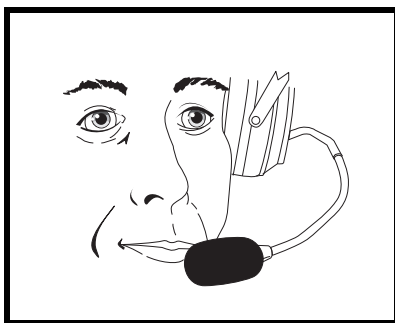

FIGURE 6. Mic Placement
6. For best noise cancellation, position the microphone as close to the mouth as possible and speak in a normal voice. See Figure 6.